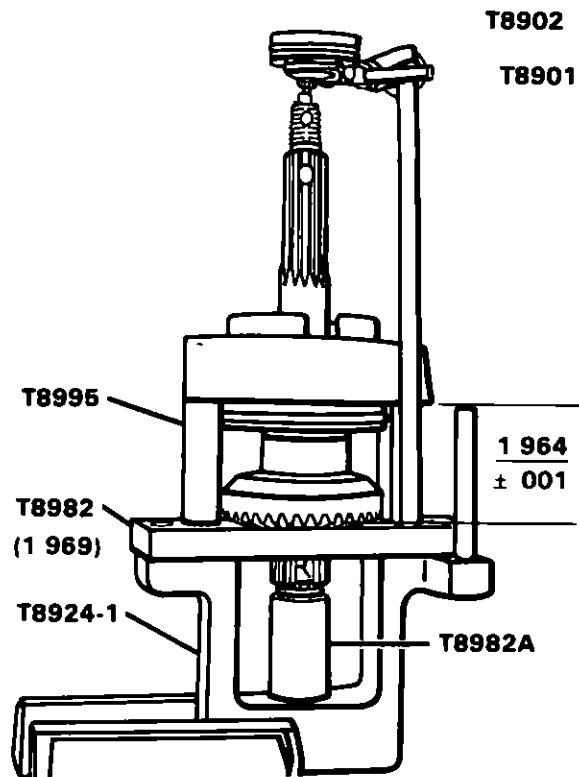

Figure 64. Checking Propeller Shaft.
D. Clamp checking gauge (Special Tool No T 8924-1) in vise. Install Special Tool No T 8982 on checking gauge and secure with two hex socket head screws. Place Special Tool No T 8982A (barrel) in bore at bottom of T 8924-1 checking gauge. Set propeller shaft with components in place on shimming fixture. Figure 64.
to the mounting surface of the bearing cage This distance must be 1.964 ± 0.001 " Figure 64